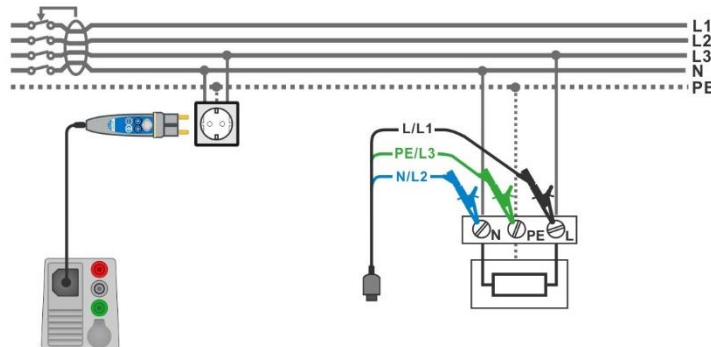

Figure 7.110: AUTO TN (RCD) measurement
- Connect 3-wire test lead or Plug commander to the object under test, see **Figure 7.110**.